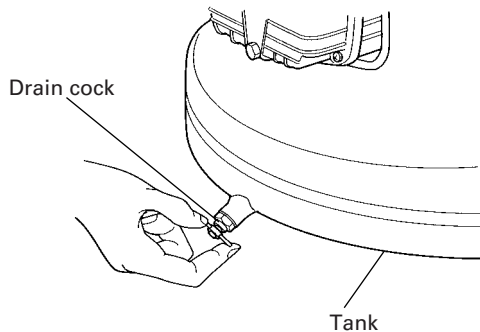

Fig. 5
- (2) Unplug the plug from power source.
- (3) Open the drain cock located at the lower part of the tank (Fig. 5).
Drain tank daily or after 4 hours of use. Open drain fitting and tilt compressor to empty accumulated water. (Fig. 5).